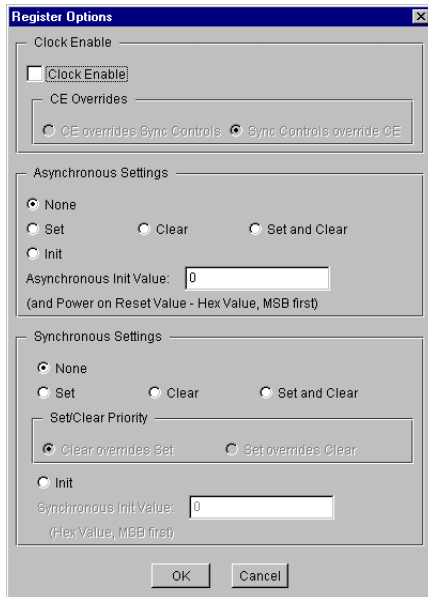

Figure 2: Accumulator Register Options Parameterization Screen
- **Register Options:** Clicking on this button brings up the Register Options parameterization screen (see figure 2).
The Register Options parameterization screen for this module is shown in Figure 2. The parameters are as follows: